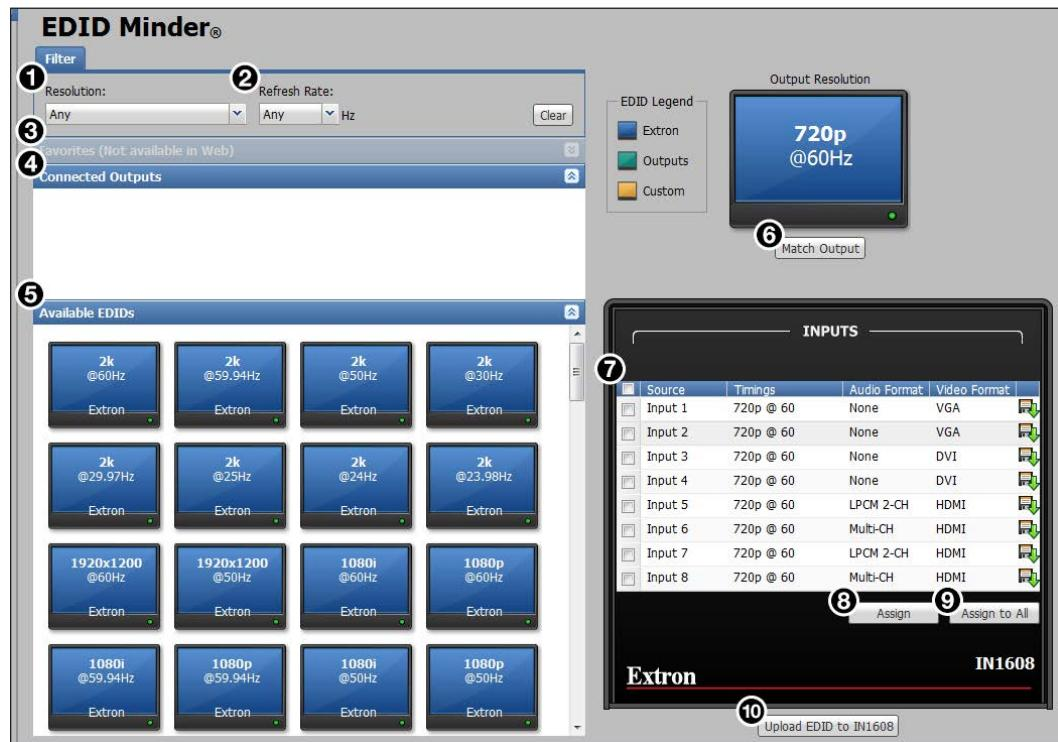

Figure 63. EDID Minder Page (IN1608)
1. From the **Resolution** drop-down menu (see **figure 63**, ① on the previous page), select a specific resolution or **Any**.
2. From the **Refresh Rate** drop-down menu (②), select a specific refresh rate or **Any**.